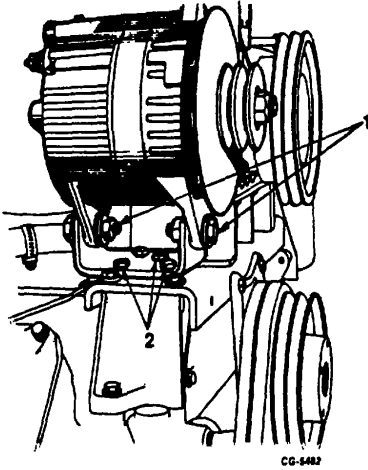

Figure 14. Remove Alternator
8. Remove two alternator to mounting bracket bolts. Remove alternator. Remove four mounting bracket bolts and remove bracket (Figure 14).
3. Install alternator mounting bracket to accessory channel and mount alternator to bracket (Figure 14).